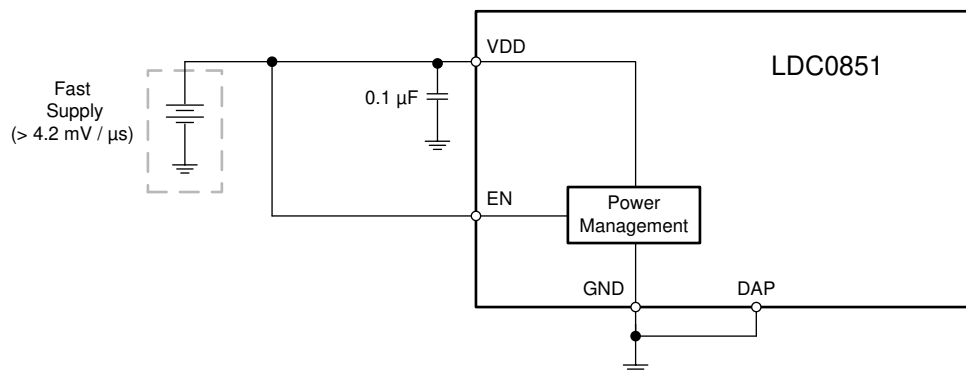

Figure 7-8. Supply Connections for Fast Ramp Rate
A 0.1 μF capacitor should be used to bypass VDD. If multiple bypass capacitors are used in the system, then the smallest value capacitor should be placed as close as possible to the VDD pin. A ground plane is recommended to connect both the ground and the Die Attach Pad (DAP). If the supply ramp rate must be faster than 4.2 mV/ μs the enable pin (EN) may be tied directly to VDD as shown in Figure 7-8.